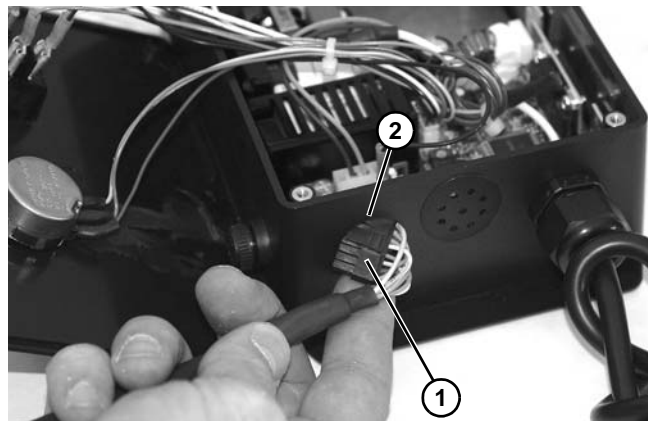

Figure 39
6. Turn connector (Figure 39, item 1), as shown, and remove wiring and connector through controller opening (Figure 39, item 2).